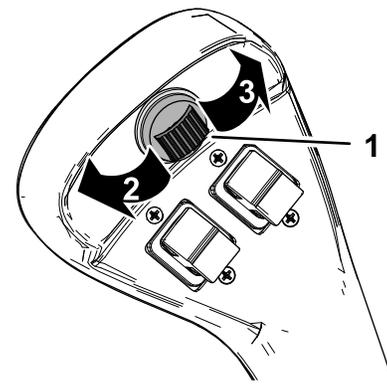

Figure 22
Use the secondary-attachment switch (Figure 22) to control certain optional attachments.
- Push the secondary-attachment switch to the right until it locks into position to run a hydraulic attachment in the forward direction (Figure 22). Use the primary-attachment switch to control the function; refer to Primary-Attachment Switch \(page 13\).